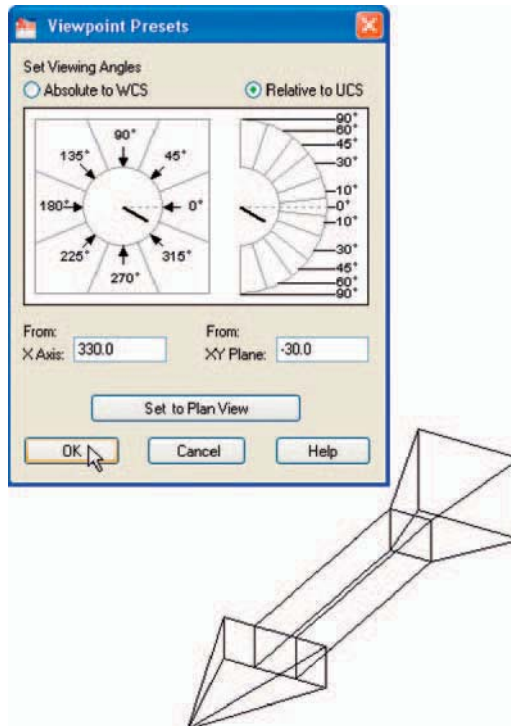

Fig. 14.35 Example – Viewpoint Presets
3. Using the **Viewpoint Presets** dialog called with a *click* on view names in the **View/3D Views** drop-down menu (Fig. 14.35).
3. The 3D model takes up the viewing position indication by the two angles (Fig. 14.35).